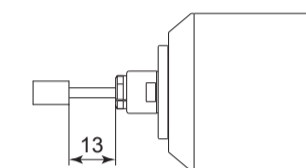

Fig. 12
- Do not exceed 13mm of overhang for mounted grindstones as shown in Fig. 12. If the overhang must exceed 13mm, reduce the motor speed in accordance with Table. 3.